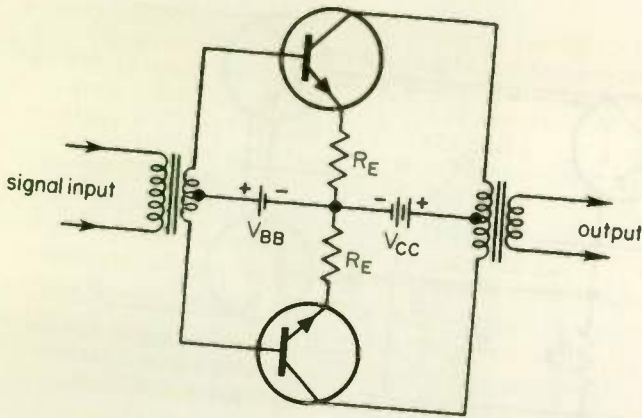

Fig. 25 A push-pull amplifier stage.
Figure 25 shows a power amplifier stage. The value of V_{BB} , of course, determines the class of operation. For class B operation V_{BB} may be zero, in which case there is no base bias. However, the use of a small bias current will help keep distortion low.
The use of the unbypassed resistors R_E in Fig. 25 reduces the current gain and the power output of the amplifier. However, they are needed with class B operation. One reason for their need is to prevent what is called *thermal runaway*. Because of the high power handled, power
2. The resistors R_E of Fig. 25 (*do*) (*do not*) produce inverse feedback.